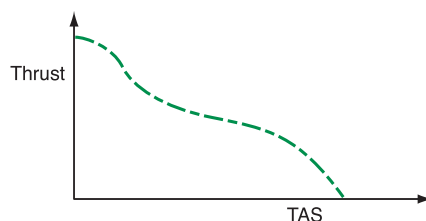

Figure 1-6 Loss of propeller thrust with airspeed
- 1.11 As airspeed changes, the combined effect of the forward velocity and the rotational velocity will change the propeller angle of attack and hence affect the thrust and the propeller drag. The maximum angle of attack for both fixed pitch and constant speed propellers will be at zero forward velocity. As airspeed increases the angle of attack reduces and the thrust will decrease. Hence the maximum thrust from a propeller occurs when it is stationary and as forward velocity increases thrust reduces until, at a speed where the propeller is at its *zero thrust angle of attack*, the thrust reduces to zero (Figure 1-6).